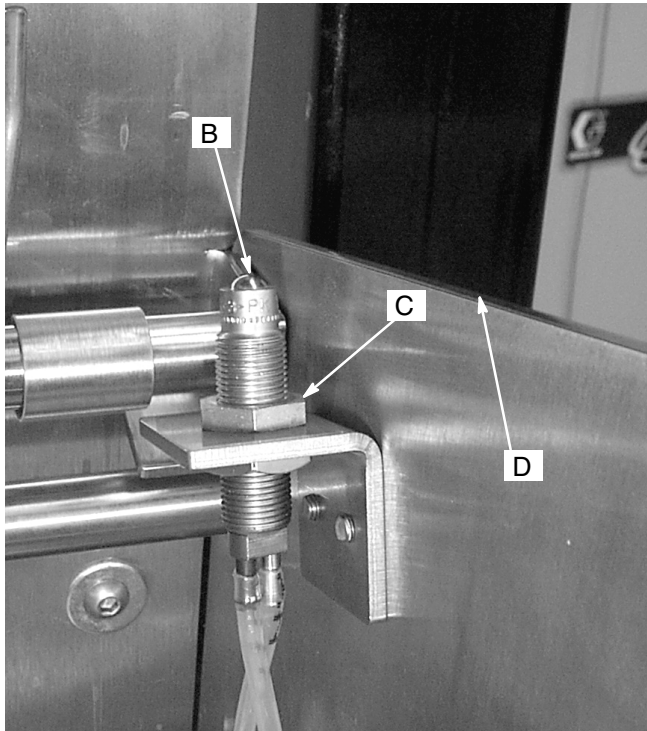

Fig. 7 Switch (B) senses when cover is closed.
Loosen the jam nuts (C) and remove the pneumatic tubing. Thread the switch (B) up or down until the ball is even with the Gun Flush Box side plate (D). See Fig. 7.